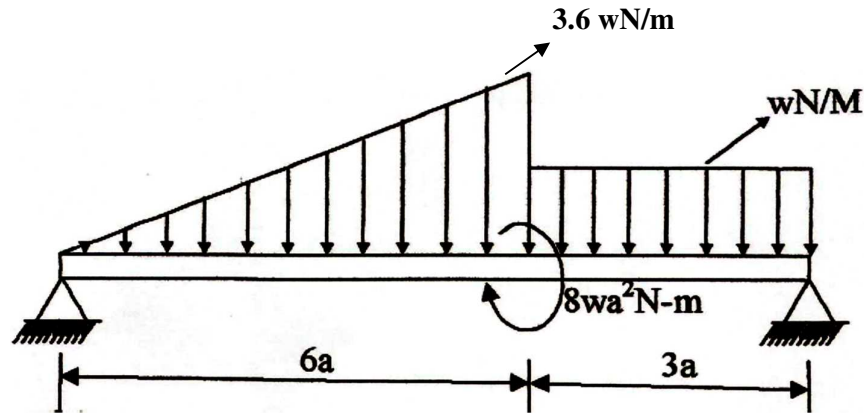

Figure Q2
- a) Figure Q2 shows a beam of length $9a$ and simply supported at the ends. The beam supports a distributed load varying in magnitude linearly from zero at the left hand end to 3.6 wN/m at a distance $6a$ meters from the left hand support and another uniformly distributed load of magnitude $w \text{ N/m}$ over the remaining $3a$ meters. A clockwise couple of magnitude $8wa^2 \text{ N-m}$ is applied at a point $6a$ meters from the left hand support. Calculate the reactions at the supports and draw to scale the shear force and bending moment diagrams. (20 marks)